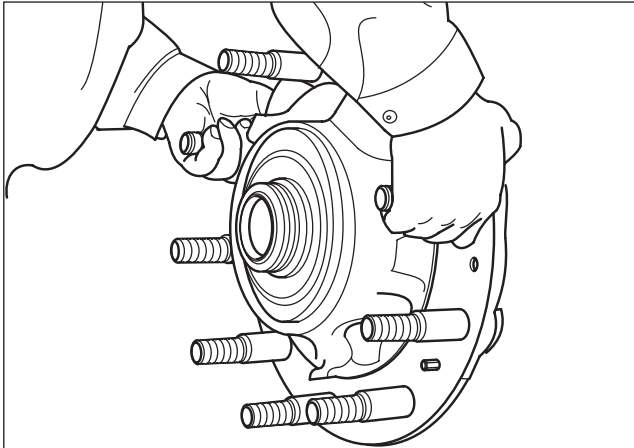
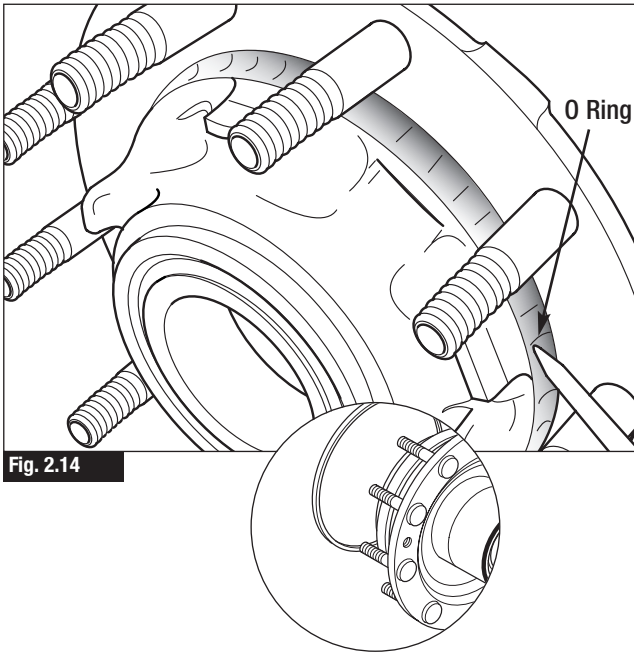

Fig. 2.13
Fig. 2.14
5. Remove the hub Fig. 2.13 and check the green o-ring in the back side. - Fig. 2.14